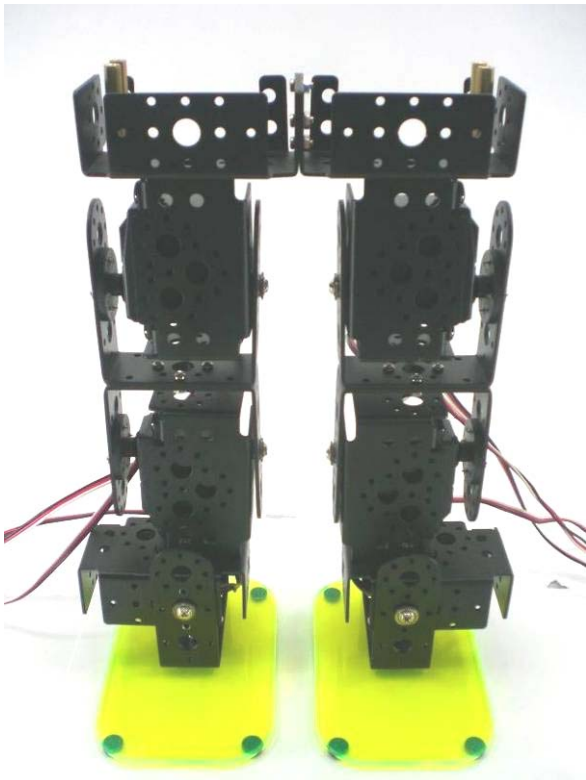

Figure 83
27. Mate the servo brackets of the legs with A sets screw to build the partially completed biped as shown in figure 83 until 85.